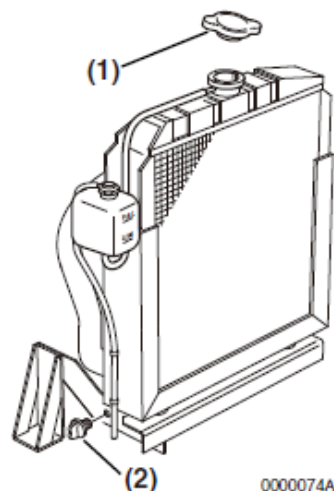

Fig.9-16
2. Remove the radiator cap (**Fig.9-16, (1)**).
3. Remove the drain plug or open the drain cock (**Fig.9-16, (2)**) at the bottom of the radiator and drain the engine coolant.